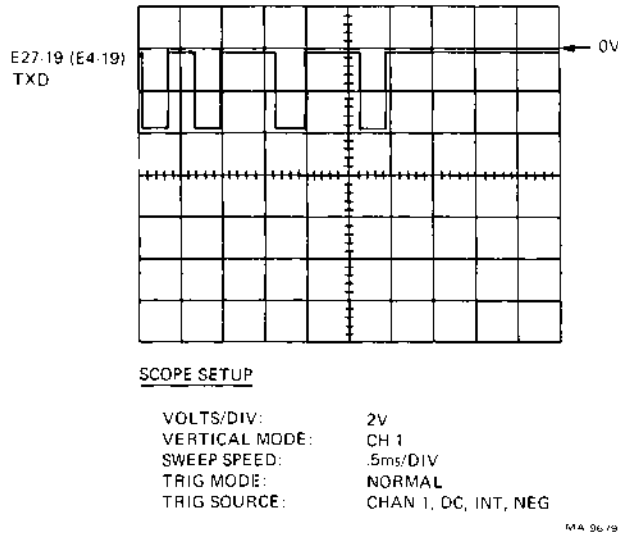

Figure 6-13 USART Serial Data (Lowercase "m")
9. Connect the scope to E27-19/E4-19 (signal TxD). Set the scope as shown in Figure 6-13.
10. Apply power to the terminal. Press and hold the lower case **m** key and check for the waveform of Figure 6-13. This is the serial representation of ASCII data for this character.